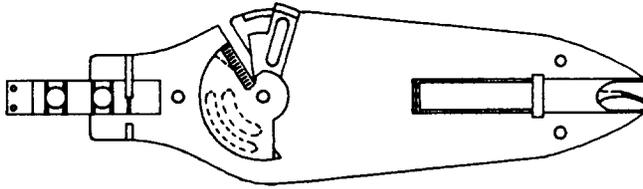

Fig. 18—950A Jumper Wire Cutoff, Insertion, and Removal Tool
2.20 **950A:** The 950A jumper wire cutoff, insertion, and removal tool (Fig. 18) is used on the COSMIC I and II main distributing frames. One insertion end (identified by the red dot) is used for inserting DT24P jumper into the 4-beam clips of the 78C blocks. The other end (identified by the blue dot) inserts DT24P wire into the 3-beam clips of the 112C blocks.